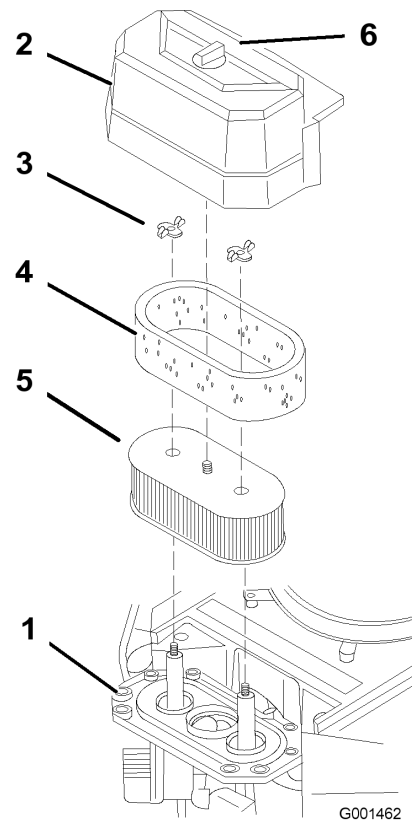

Figure 20
3. Clean around the air cleaner to prevent dirt from getting into the engine and causing damage (Figure 20).
4. Unscrew the cover knob and remove the air cleaner cover (Figure 20).
5. Remove the 2 wing nuts and remove the air cleaner assembly (Figure 20).
6. Carefully pull the foam element off the paper element (Figure 20).
1. Do not clean the paper filter. Replace it after 200 operating hours (Figure 20).
1. Carefully slide the foam element onto the paper air cleaner element (Figure 20).
- Place the air cleaner assembly onto the air cleaner base and secure it with the 2 wing nuts (Figure 20).
- Place the air cleaner cover into position and tighten the cover knob (Figure 20).